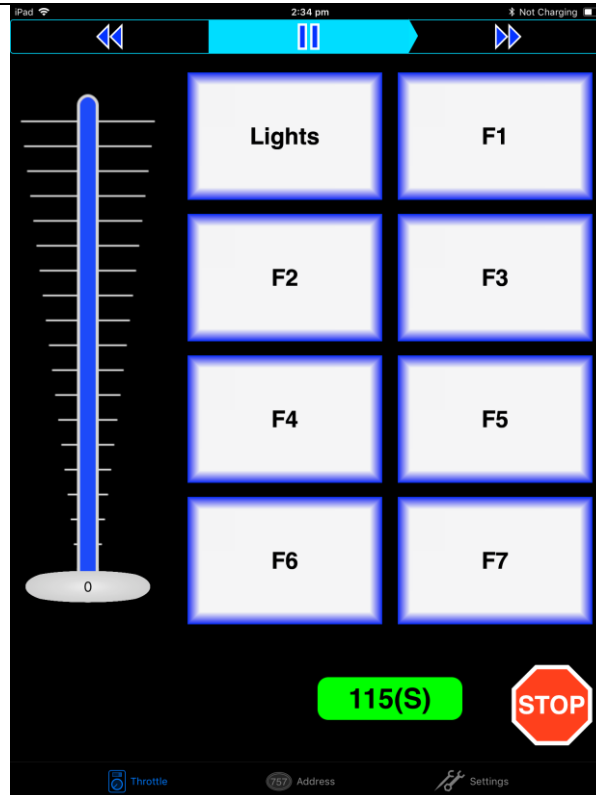

Figure 10 The WiThrottle "Throttle" screen
(12) Tap the Throttle tab at the bottom-left of the screen and you can begin driving as Figure 10. Each time you make a change to the locomotive's state, both the green network LED and the blue Cab Bus LED will flash.